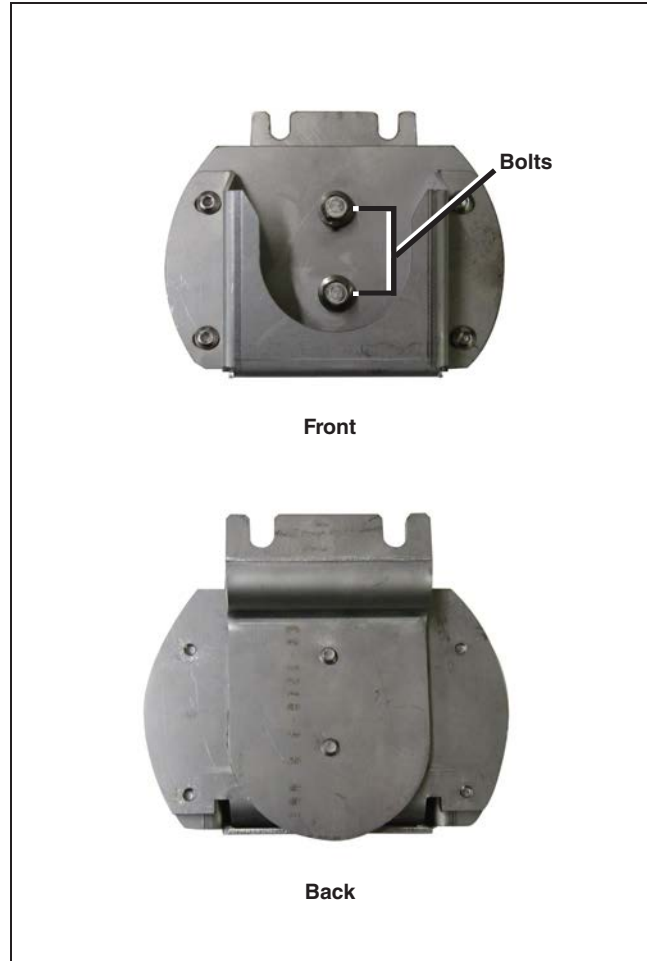

Figure 28. The parking stand spacer.
- STEP 1.** Make sure the two hex head  $\frac{1}{4}$ -20  $\times$   $\frac{5}{8}$ -inch flange head bolts are loose but still installed to the spacer back plate. See Figure 28.